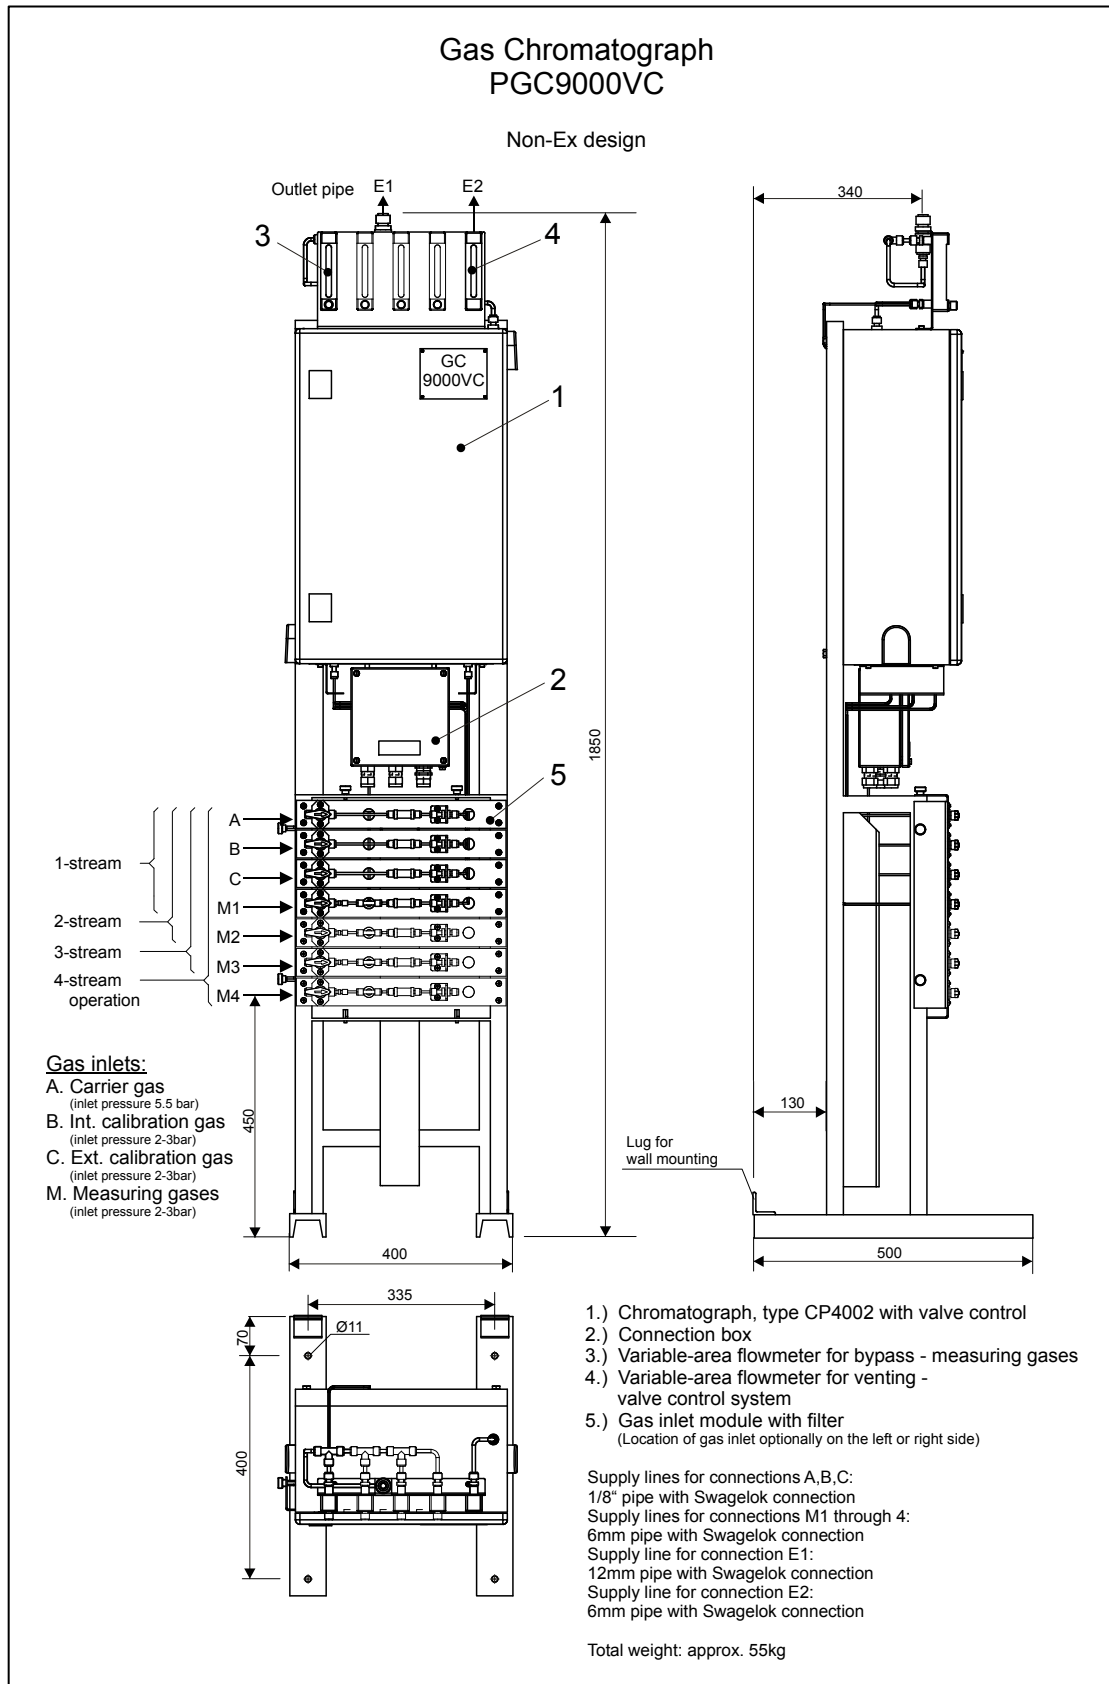
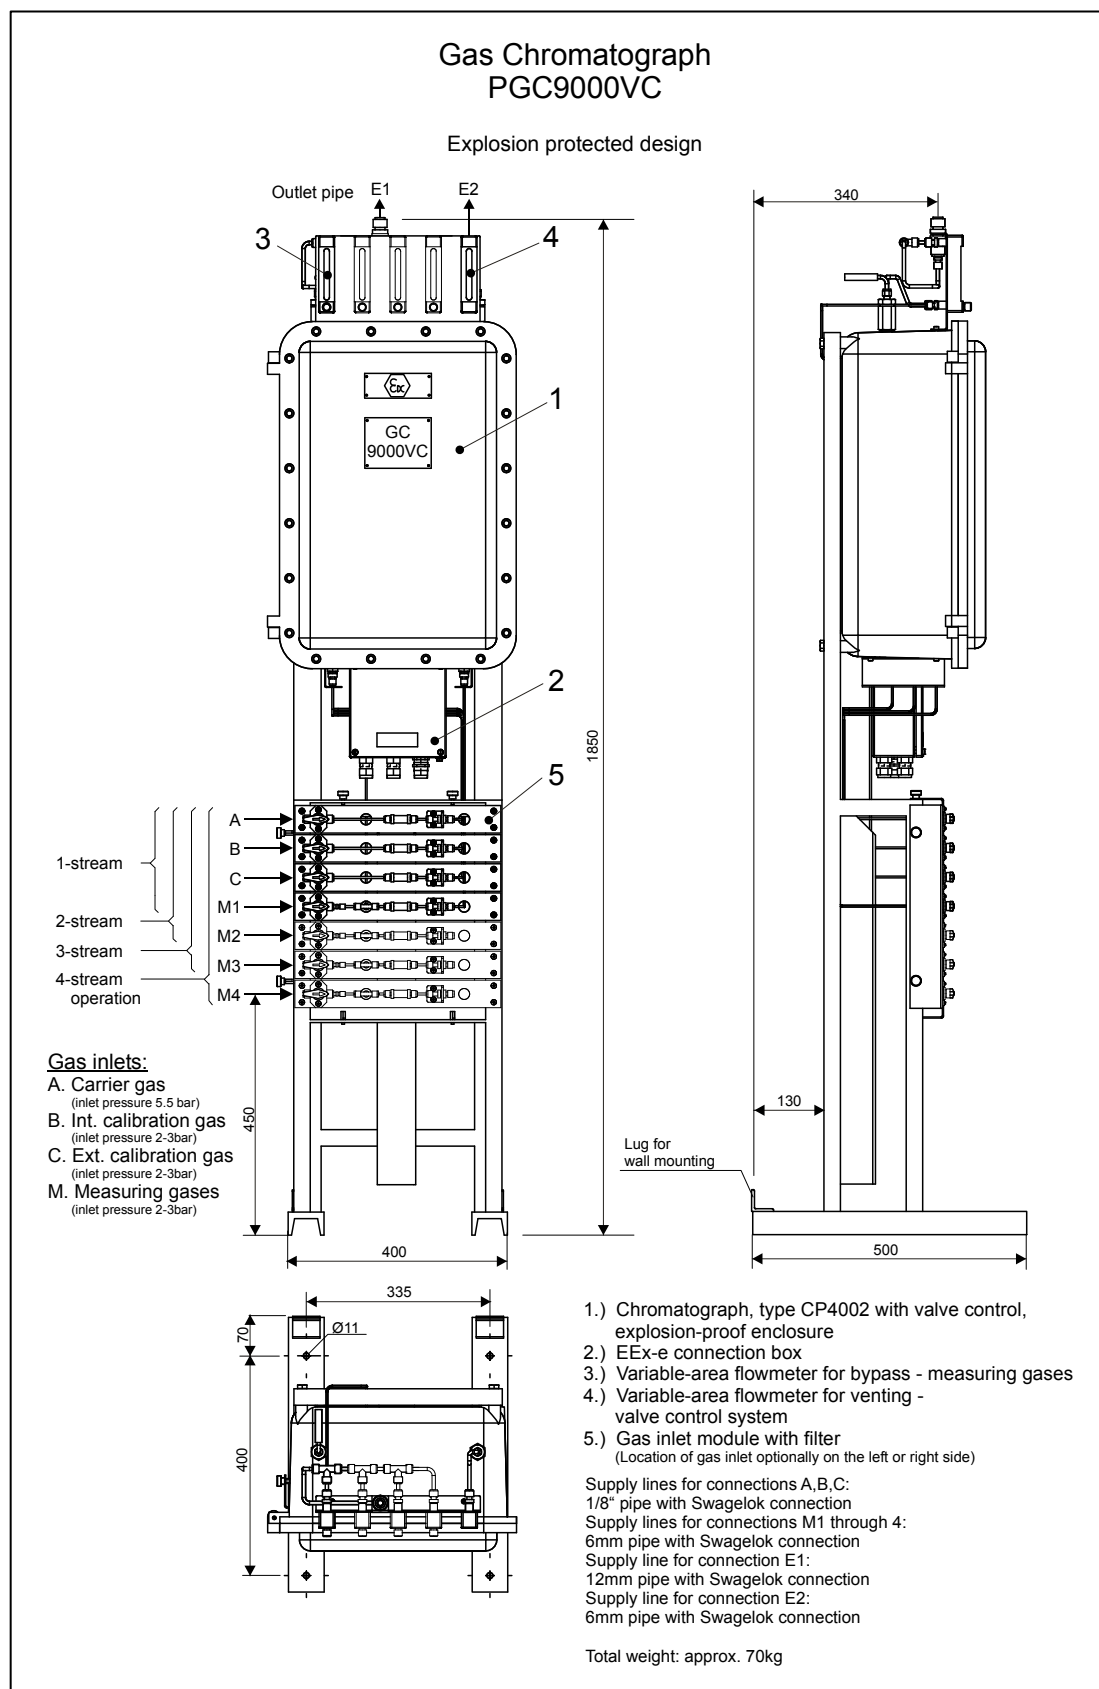
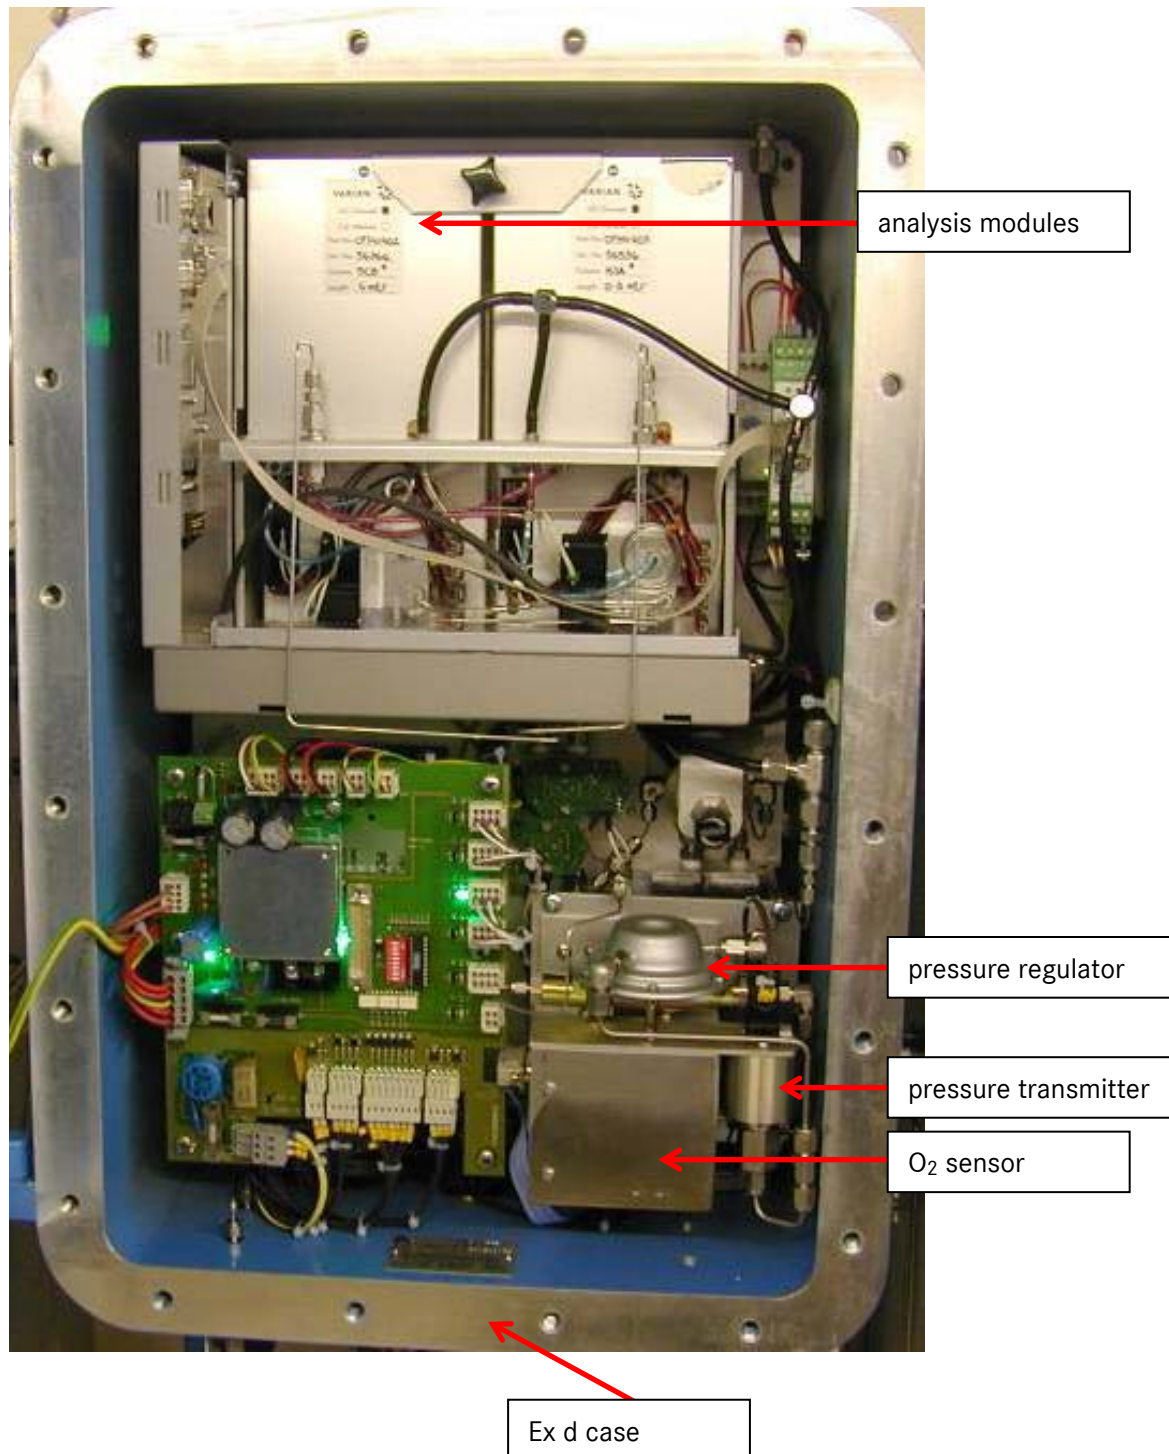

Figure 2.1
Figure 2.2
Figure 2.4
Figure 2.1 shows the CP 4002 measuring element in its non-ex design and Figure 2.2 in its explosion-proof ("Ex-d") design. The unit can be divided into four major constituents:
- The electrical connector box (2) with its connections to the GC 9000 analytical computer. (Data exchange, valve control, power supply)
- An explosion-proof unit (Fig. 2.2) comprising power supply and valve control components.
Figure 2.4 shows the construction of the analyzing unit accommodated in an explosion-proof enclosure (Figure 2.1 or 2.2, item 1).
The gas mixture leaving the chromatograph is conducted through a flame barrier (Ex d design only) to a variable-area flow meter (figures 2.1 and 2.2, items 3 and 4). This device serves to test the chromatograph for correct functioning. A flow will be shown only during sweeping time. Since new devices are set to continuous sweeping, only during the calibration there will be no flow display at the measuring gas outlet.